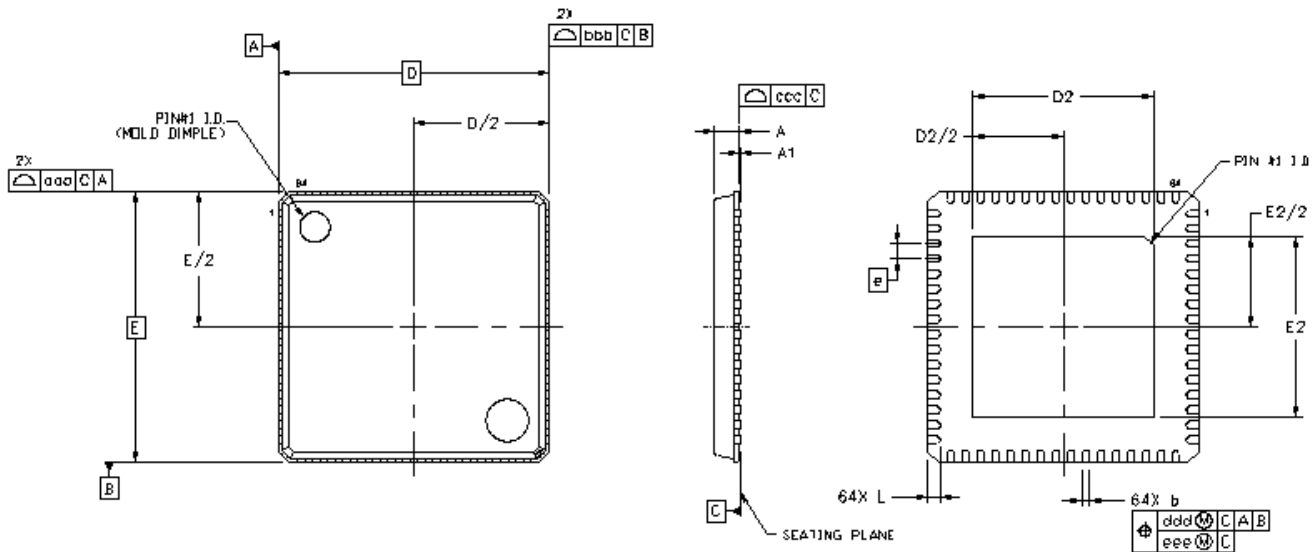

Figure 12. 64-Pin Quad Flat No Lead (QFN) Package
Figure 12 illustrates the package details for the Si53115. Table 26 lists the values for the dimensions shown in the illustration.
- Updated package drawing (Figure 12) and package dimensions (Table 26).